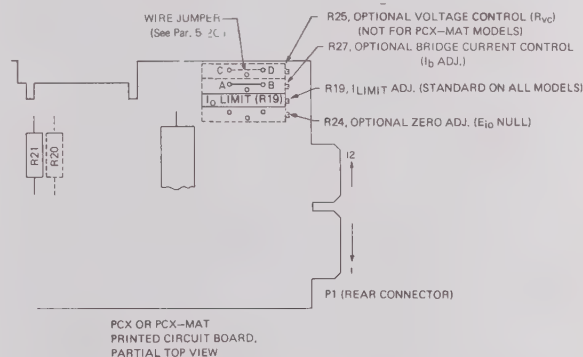

FIG. 5-2 LOCATION OF MOUNTING SPACES FOR OPTIONAL CONTROLS
5-7 Models ordered with these controls factory installed bear the suffixes "R" (for R27), "E" (for R24), or a four place suffix "8000" (for R25). The installation instructions may be disregarded for these models. DISCONNECT POWER SUPPLY FROM THE AC INPUT POWER SOURCE. Before installation, remove the printed circuit board as described in paragraph 5-3. Locate predesignated spaces for the controls by referring to FIG. 5-2. Proceed as directed in the applicable paragraphs below
- Insert 1 K ohm in the space outlined on FIG. 5-2. Solder in place and turn R27 to its approximate midposition. Reinstall the circuit board, and return power supply to the plug-in adaptor.
- Install a precision resistor (R_{VC}) across barrier-strip terminals (4) and (9) and connect a precision voltmeter across the output terminals (5) and (6).^{*} Since the bridge current (I_B) is a nominal 1 mA, and the control ratio is 1 K ohm/V, the output voltage E_O will be approximately equal to E_O = I_BR_{VC}. (i.e., for each 1000 ohms of voltage control resistance [R_{VC}], one volt of output voltage will appear across the output terminals.)
- b) Locate appropriate space on the printed circuit board (refer to FIG. 5-2), remove the wire jumper, and solder the selected rheostat in place. The value of the rheostat will depend on the desired output voltage, i.e., for each 1000 ohms of resistance, 1 volt of output will be produced.
- b) Locate R19 (Refer to FIG. 5-2) Slowly turn the control counter clockwise until a sharp increase in output ripple is observed, indicating the operation of the power supply in the current limit mode. Set control slightly clockwise again until the output ripple appears just normal again.